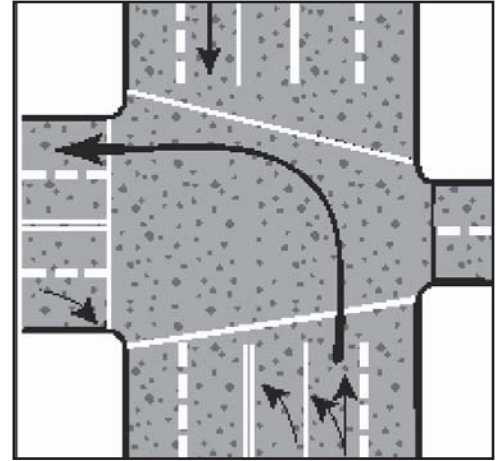

Figure 2.14
- If there are two turning lanes, always take the right turn lane. Do not start in the inside lane because you may have to swing right to make the turn. Drivers on your left can be more readily seen. (See Figure 2.14.)